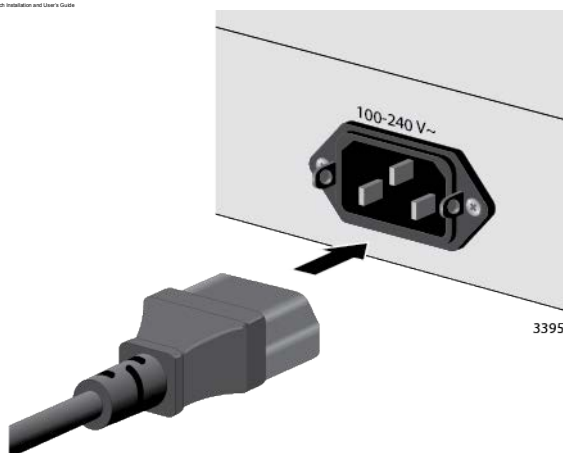

Figure 24. Connecting the AC Power Cord
2. Connect the AC power cord to the AC power connector on the rear panel. See Figure 24.